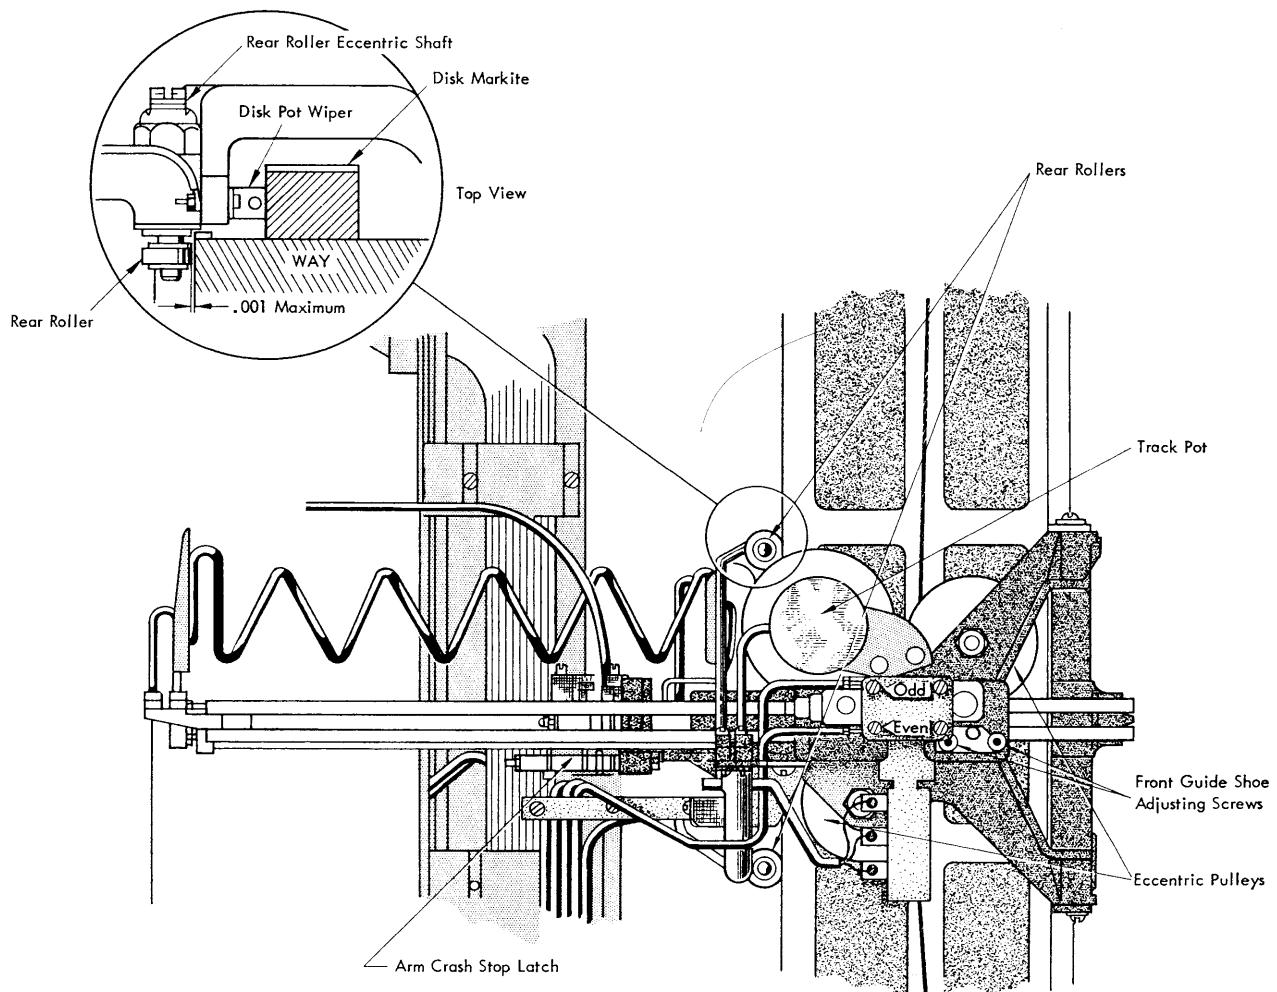

Figure 63. Access Arm and Carriage Assembly (side view)
9. Loosen track potentiometer anchor and pivot screws and rotate the assembly to disengage gear (See Figure 63).
15. It may be necessary to loosen both top and bottom eccentrics on pulleys to allow clearance to arm (See Figure 63).
16. Rotate arm crash stop latch  $90^\circ$  (See Figure 63).
### *Carriage (Figures 63 and 64)*